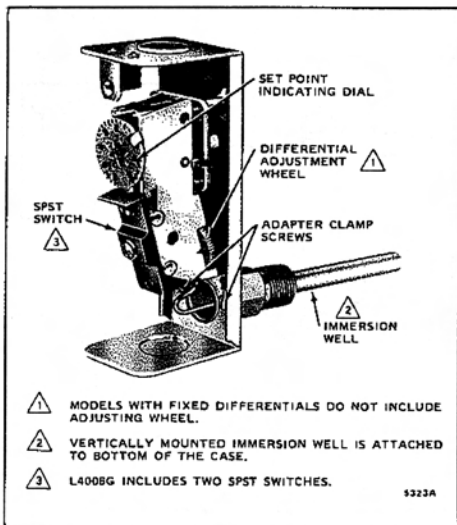

Fig. 1—Internal view showing L4006 (model with horizontal well).
1. Loosen screw (at top of case, above scale setting), and remove cover. Loosen 2 screws that secure adapter clamp. See Fig. 1.